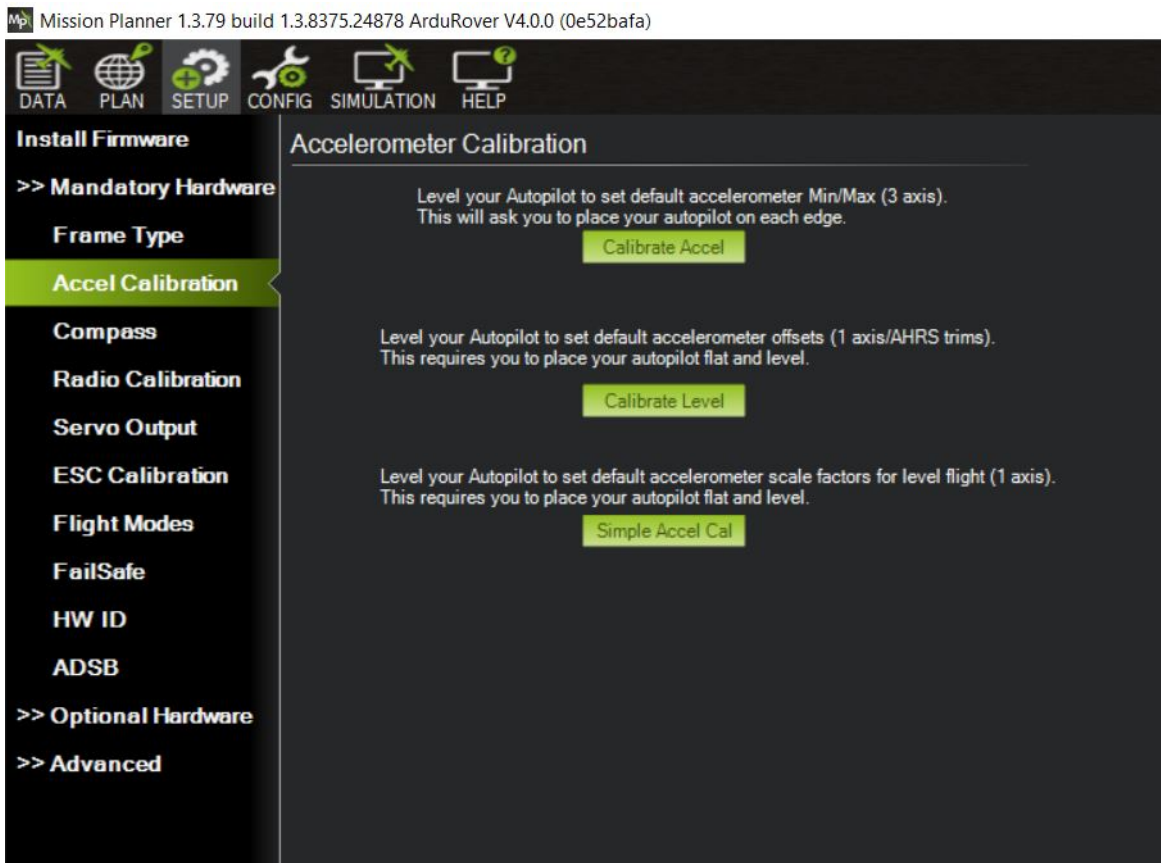

Figure 63: Accel Calibration
13. Select Calibration Level. (See Figure 63)